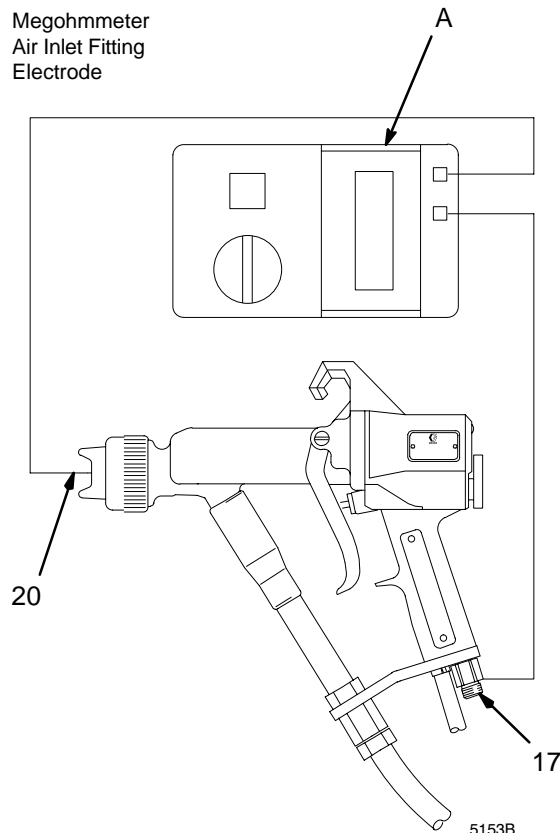

Fig. 13
Megohmmeter P/N 218979 (A-see Fig. 13) is not approved for use in a hazardous area. To reduce the risk of sparking, do not use the megohmmeter to do electrical tests unless:
2. Measure the resistance between the end of the gun electrode (20) and the air inlet fitting (17). See Fig. 13.
KEY-Fig. 13